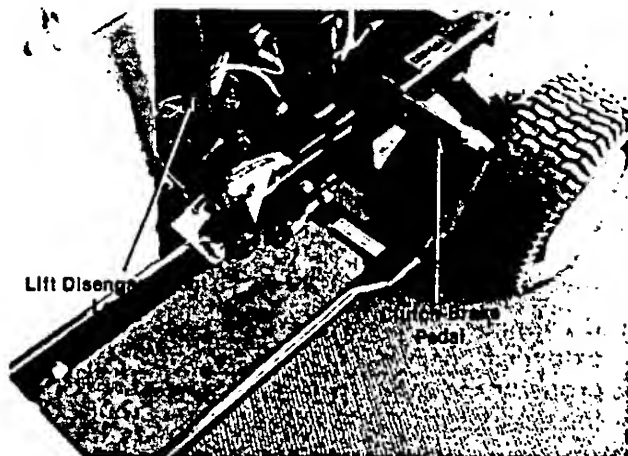

FIGURE 12.
e. Clutch-Brake Pedal. The clutch-brake pedal is located on the right hand side of the rider and is operated by depressing it with your right foot. See figure 12.
f. **Lift and Disengagement Lever.** It is used to raise the cutting deck. Pulling it all the way back and locking it disengages the blades. The engine will not start unless the lift and disengagement lever is in the disengaged position. See figure 12.